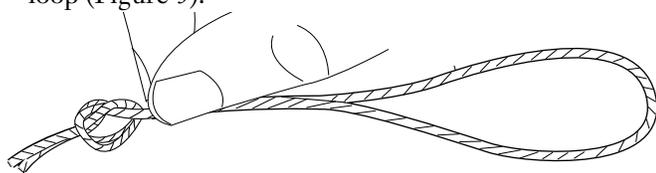

Figure 3
- c) Fold the string in half, gathering the two ends together. Tie a knot in the line, joining the two ends to make a loop (Figure 3).